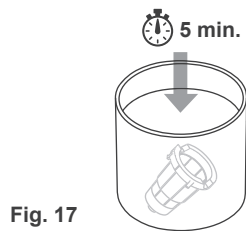

Fig. 17
2. Immerse the Red Cup Holder in to hot water for five (5) minutes (Fig. 17), and rinse with warm water.